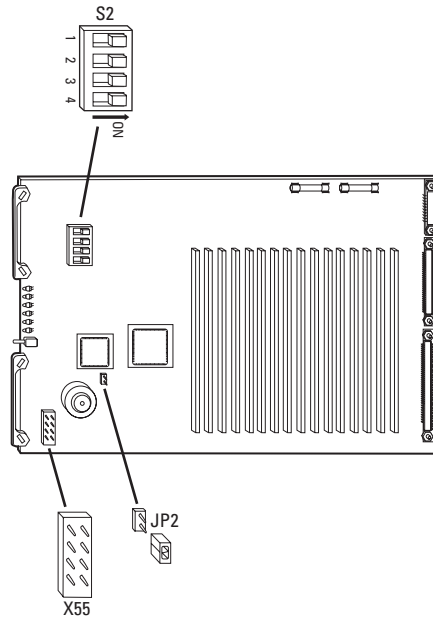

Figure 29. DIP Switch and Jumper Locations on CM9760-VMC Video Output Card
- a. Refer to Figure 29 for DIP switch and jumper locations on the CM9760-VMC card.